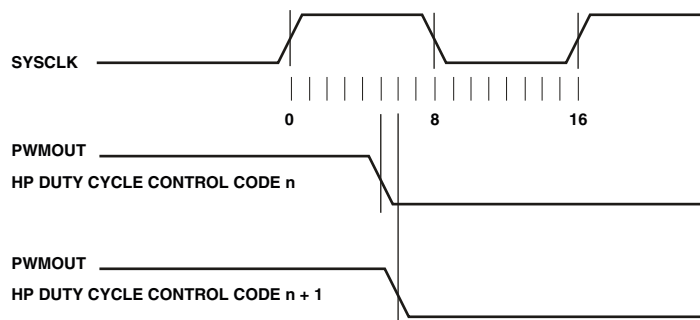
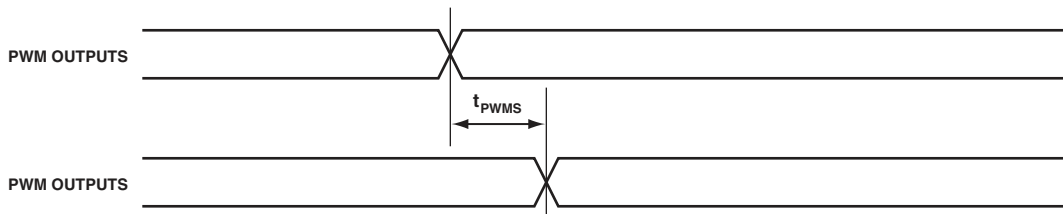

Figure 58. Fractional Duty Cycle Edge Placement (4-Bit Resolution)
Figure 61. PWM HP and MP Modes Timing, Output Skew
Table 87, Table 88, and Figure 58 through Figure 61 describe heightened precision (HP) PWM operations.
²See Figure 58 for an example of 4-bit resolution of fractional duty cycle edge placement.